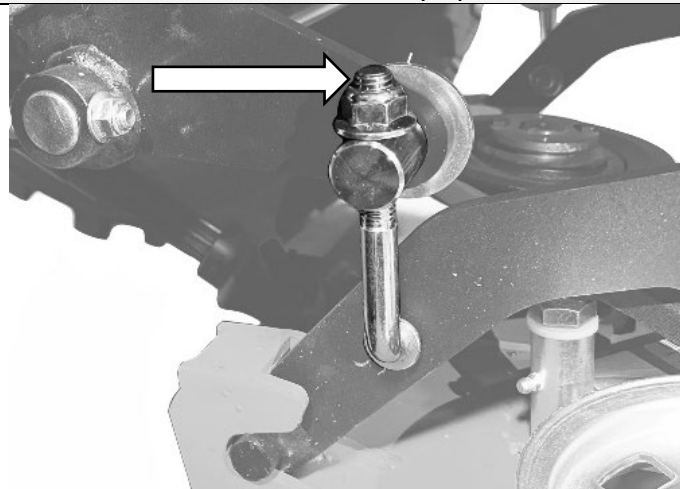

Figure 3D
2. Set the nuts on the L-Joint $\frac{1}{4}$ " from the end of the bolt (Figure 3D).